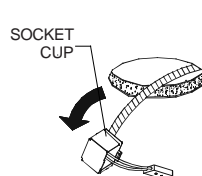

FIG.1
1. Take out the socket cup. (Fig.1)